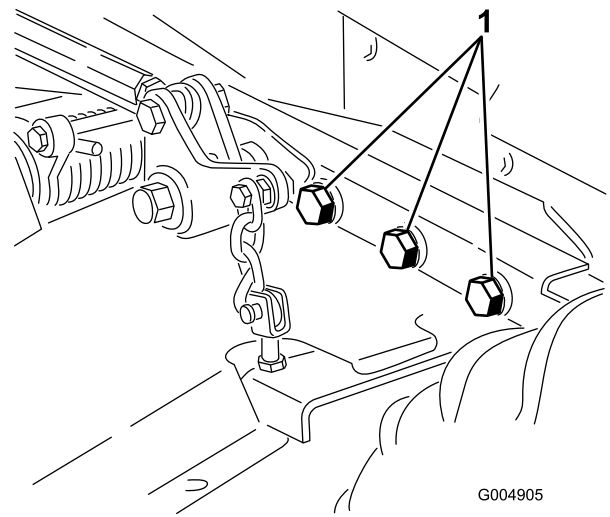

Figure 93
5. Check all fasteners for looseness and tighten them as necessary. Torque the 6 bolts securing the mower deck frame to the traction unit (Figure 93) to 359 N·m (265 ft-lb).